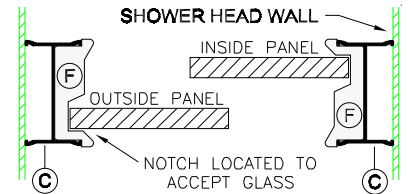
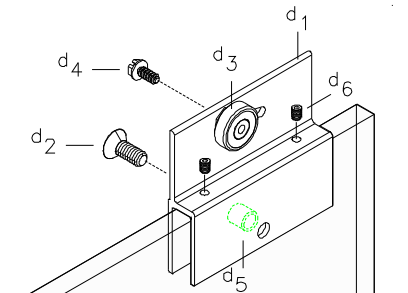

figure 4
figure 5
5. Reposition Wall Jambs (B) as before and secure Jambs to shower walls using three (3) 8112 Installation Screws (G). Make sure to attach Panel Bumpers (F) to top and bottom installations holes as shown in exploded view - sheet 1. Please note that notches on bumpers are positioned so as to accept glass insertion, as shown in figure 4.
6. Measure the wall to wall opening at top of Wall Jambs and cut the Header (C) to the measurement obtained. Position and install the Header over the Wall Jambs.
7. Attach Hanger Brackets as shown in exploded view - sheet 1 and figure 5 this sheet. Begin by inserting a Nylon Sleeve (d5) into the glass panel holes.
Next, screw in two Nylon Set Screws (d6) onto the Hanger Bracket (d1) as shown in figure 5 (the purpose of nylon set screws is for leveling adjustment of hanger bracket so it will not "see saw" on glass) adjust as required.